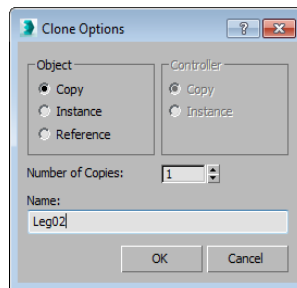

Figure 5-6 The **Clone Options** dialog box
3. In this dialog box, enter **Leg02** in the **Name** text box and make sure the **Copy** radio button is selected, as shown in Figure 5-6. Next, choose the **OK** button; *Leg02* is created over *Leg01*.